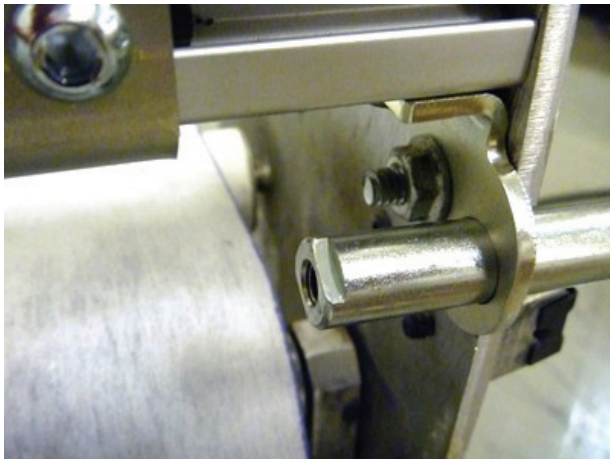

Figure 16
16. Insert the new shaft with the cut out as shown. Refer to *Figure 16*.